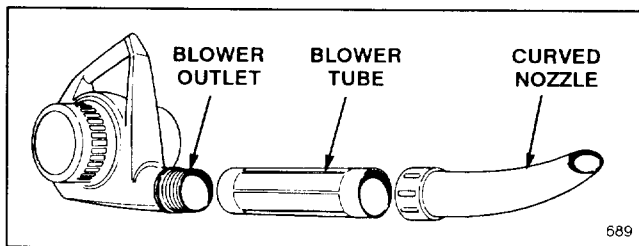

Figure 1
1. Thread nozzle and blower tube together with a twisting motion (Fig. 1).
2. Thread assembled tubes onto blower outlet (Fig. 1).
1. Remove the nozzle and blower tube from the blower outlet (Fig. 1).